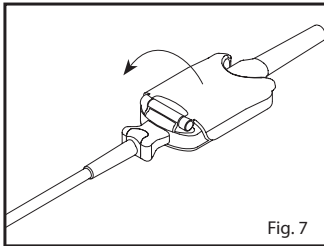

Fig. 7
1. Refer to **Fig. 7**. Lift the protective latch to gain access to the connector.